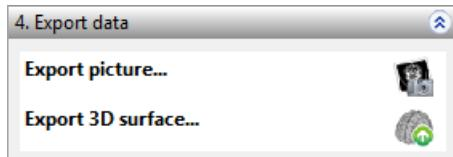

Figure 14.1: Menu to export data
**4. Export data.** If the menu is not visible, double-click with **left** mouse button to expand the item. Figure 14.1 exhibit this menu.